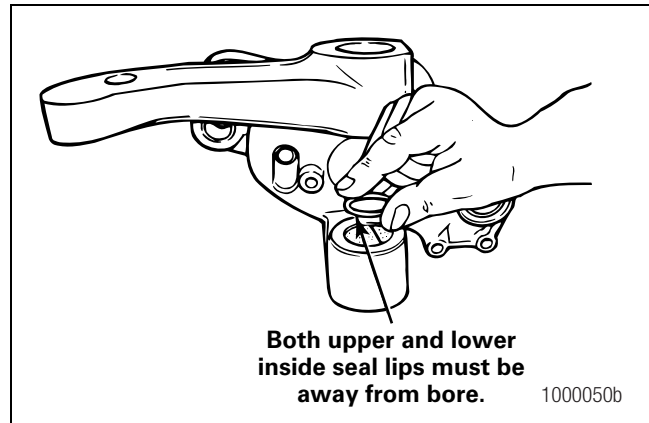
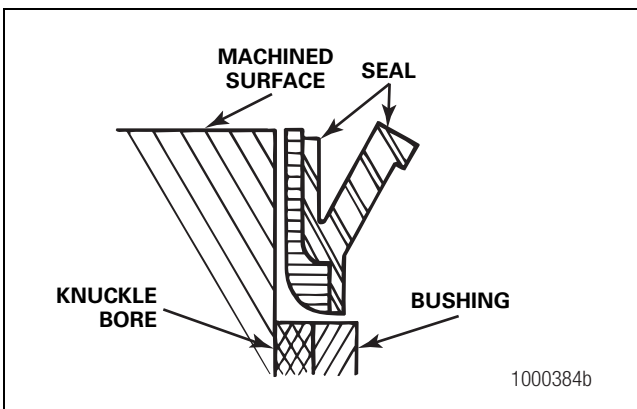
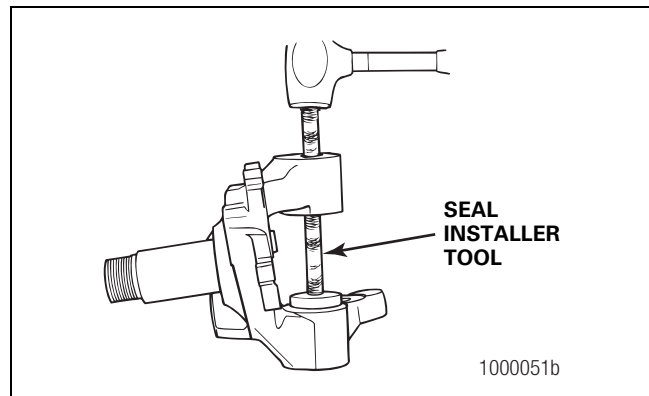

Figure 6.11
Figure 6.10
Figure 6.12
- **For Easy Steer and nylon bushings:** The top of the seal must be even with the top of the knuckle. Figure 6.10.
1. Turn the knuckle OVER. Place the seal lightly into the inner bore. The seal lip must be AWAY from the bore. Figure 6.10 and Figure 6.11.
2. Use a seal installer tool to press the seal firmly into the knuckle bore. Figure 6.12.
3. After installing the Easy Steer bushings, the top of the seal must be even with the inner machined surface of each knuckle bore. Figure 6.10.
4. Turn the knuckle over to the UP position. Place the seal lightly into the inner bore. The seal lip must be AWAY from the bore. Figure 6.10.
5. Use a seal installer tool to press the seal firmly into the knuckle bore. Figure 6.12. The top of the seal must be even with the inner machined surface of each knuckle bore. Figure 6.10.